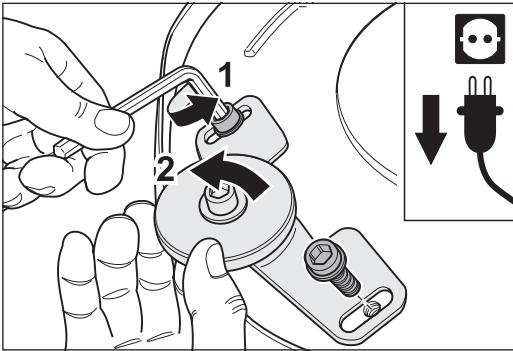

Fig. 81 Remove the screws on the wall-protecting roller bracket (1) and then remove the complete wall-protecting roller (2).
- 2** Remove the two screws with which the wall-protecting roller is fastened to the attachment and then remove the complete wall-protecting roller (fig. 81).